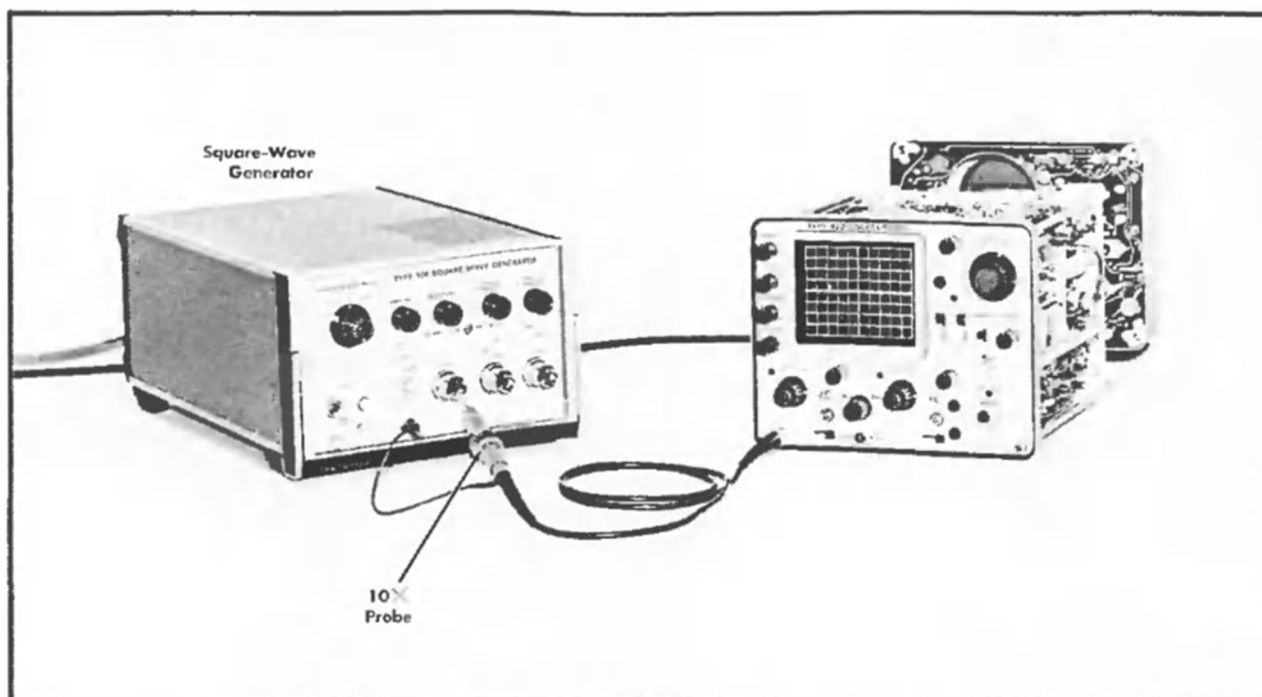

Fig. 6-21. Initial test equipment setup for steps 20-22.
①
- Test equipment setup is shown in Fig. 6-21.